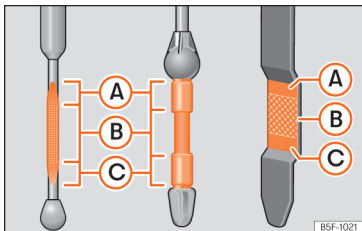

Fig. 186 Engine oil dipstick.
- Then pull it out once more and check the oil level »» **Fig. 186**. Top up with engine oil if necessary.
- When the oil level reaches at least zone »» **Fig. 186 B**, unscrew the engine oil filler cap carefully »» ⓘ.
If the oil level is above area »» Fig. 186 , do not start the engine. This could result in damage to the engine and catalytic converter. Contact a specialised workshop.
The oil level must never be above zone »» Fig. 186 . Otherwise oil can be drawn in through the crankcase breather and leak into the atmosphere via the exhaust system.